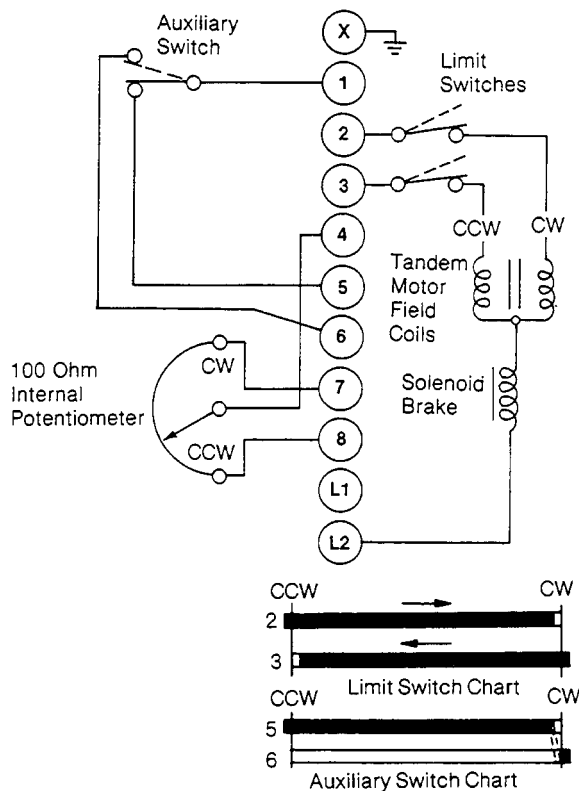

Figure-13 Proportioning and Floating (MP-98xx or MP-99xx Series Only). Internal Wiring.
**MP-98xx and MP-99xx Series** — Apply rated line voltage to terminal L2 and terminal 2 for clockwise end of travel. Apply rated line voltage to L2 and terminal 3 for counterclockwise travel to end, Figure-13.